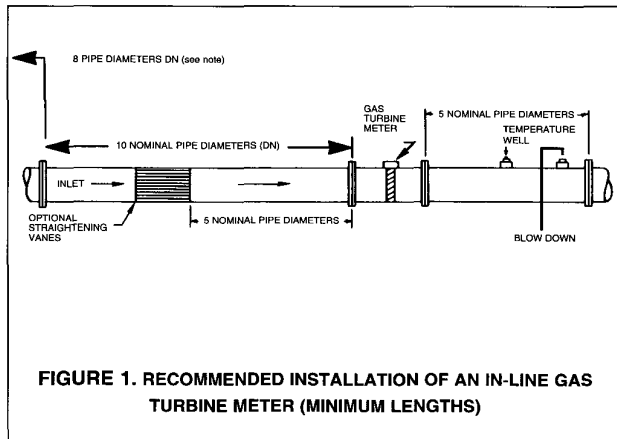

FIGURE 1. RECOMMENDED INSTALLATION OF AN IN-LINE GAS TURBINE METER (MINIMUM LENGTHS)
**1. Inline** – A minimum run of ten (10) pipe diameters (DN) of straight pipe must be used between any flow-altering device (other than flow throttling) and the inlet flange of the Turbo-Meter (Figure 1).